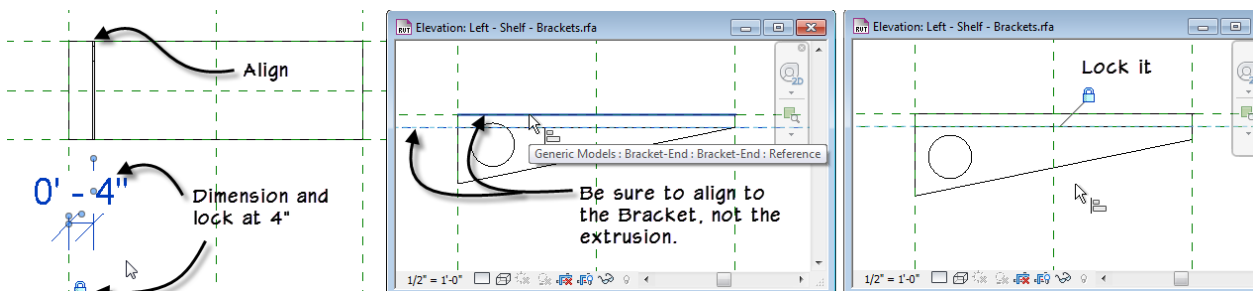

Figure 25
8. Cancel the dimension command, select the bracket and then edit the temporary dimension to: **4"**. **Lock it** (see the left side of Figure 25).
10. First select the Underside reference plane for the alignment reference. Then be sure to use the TAB key and make sure you are aligning the top of the Bracket and *NOT* the Extrusion: Shape Handle. Lock it (see the right side of Figure 25).